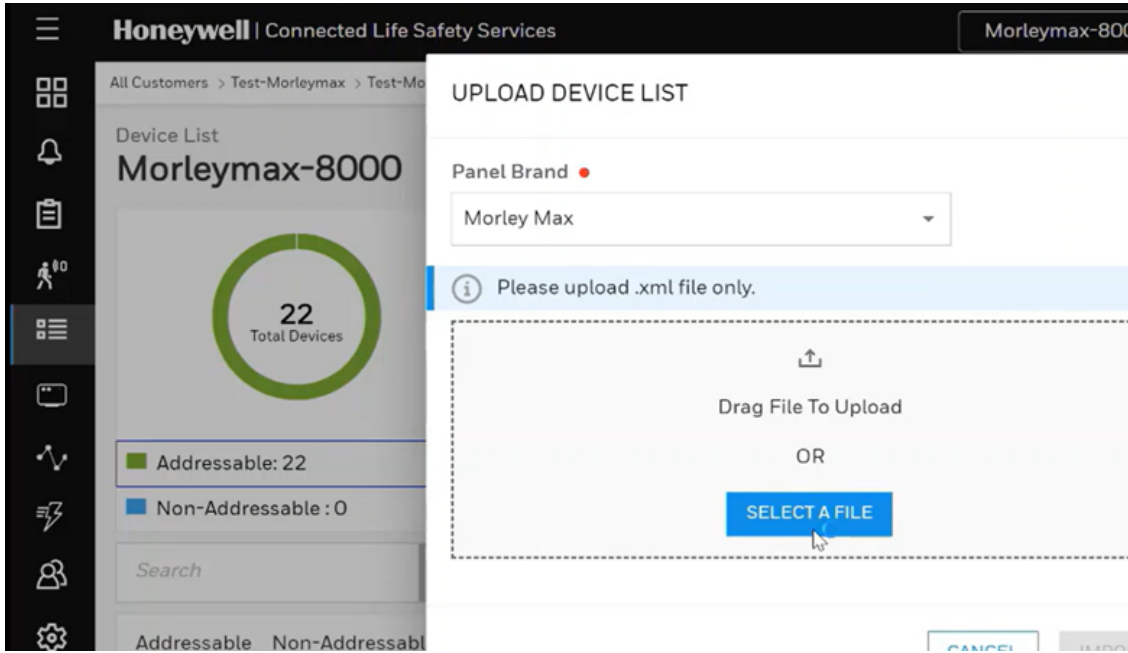

Figure C-45: Configuration File Upload to CLSS
- Now from the configuration export folder shows all the details of the panel set up with devices attached to it. Select the XML format of the configuration file and upload that to CLSS as shown in Figure C-45: Configuration File Upload to CLSS